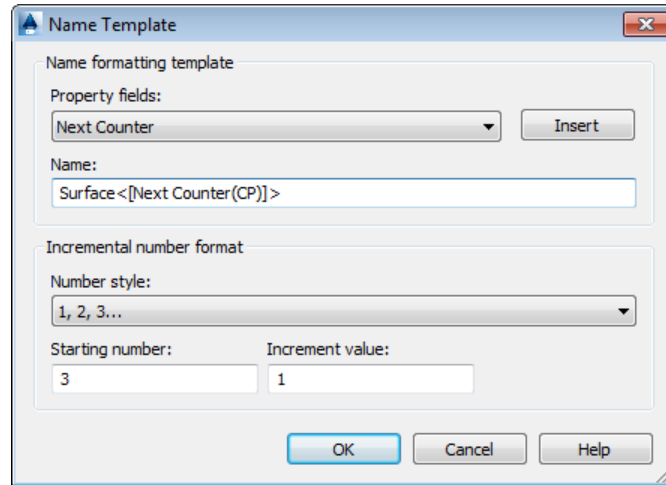

Figure 3-53 The Name Template dialog box
2. Click in the **Value** field of the **Name** property and choose the browse button displayed on the right; the **Name Template** dialog box is displayed, as shown in Figure 3-53.